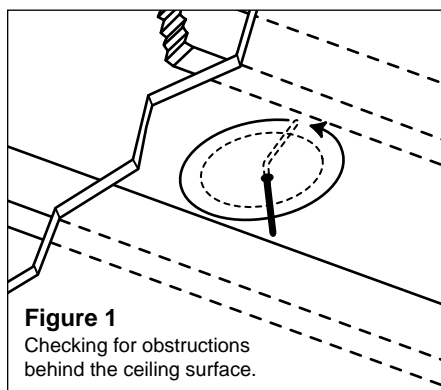

Figure 1
1. Cut a foot-long piece of coat hanger. Bend the wire (creating a right angle) leaving 4-3/4" at one end for the CM650SI (this allows for the extra width of the mounting dogs). Poke the "L-shaped" wire into the pilot hole and turn it in a complete circle and move it into the ceiling cavity to make sure you have approximately 3-3/8" of depth. If the coat hanger movement is obstructed by anything, fill the hole(s) with spackle and try another location (See Figure 1).